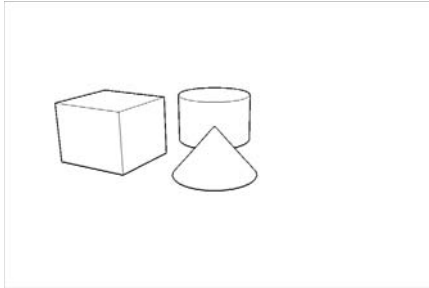

Figure 2-21: Without anything selected, you can click anything in your model with the Move tool to start moving it around.
- ✓ **Moving without a selection:** If you don't have anything selected, you can click anything in your model with the Move tool to move it around. Only the thing you click is moved. Figure 2-21 shows what I'm talking about.